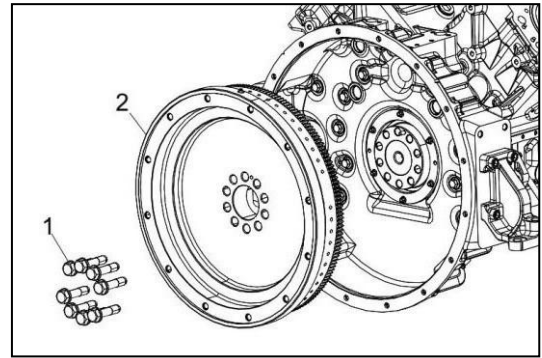

Figure 137
3. Apply a film of oil to the threads and under the head of the flywheel fixing bolts (Figure 137, 1).
4. Using suitable handling, install the flywheel (Figure 137, 2) on the crankshaft.